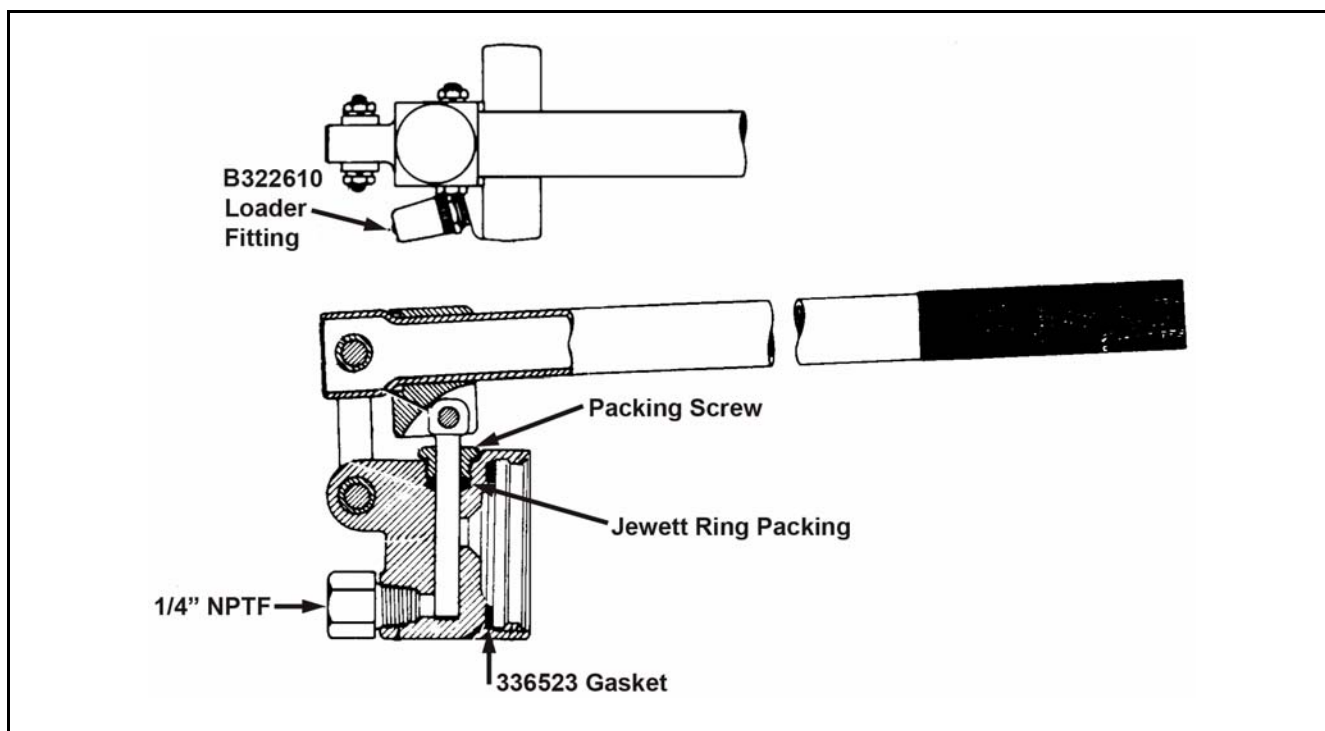

Figure 6 Head Assembly for Models 6243-J3 and 6679-J3 Guns
1. Wipe loader fitting B322610 (Figure 6) clean of any material.
Packing screw should be checked occasionally for snug fit to prevent leakage. If leakage persists after screw has been fully tightened, check piston for damage and/or replace jewett ring packing (Figure 6).